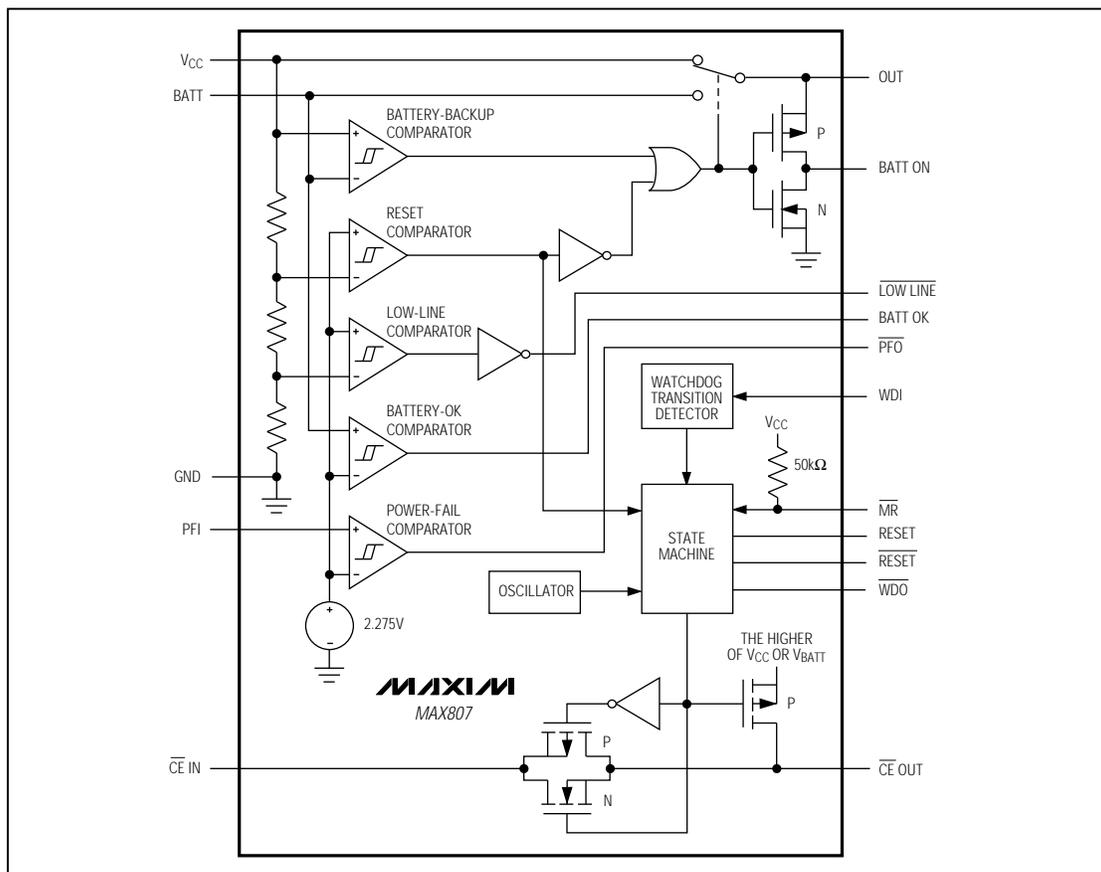

Figure 1. Block Diagram
The MAX807 microprocessor (μ P) supervisory circuit provides power-supply monitoring, backup-battery switchover, and program execution watchdog functions in μ P systems (Figure 1). Use of BiCMOS technology results in an improved 1.5% reset-threshold precision, while keeping supply currents typically below 70 μ A. The MAX807 is intended for battery-powered applications that require high reset-threshold precision, allowing a wide power-supply operating range while preventing the system from operating below its specified voltage range.
The MAX807 provides internal gating of chip-enable (CE) signals to prevent erroneous data from corrupting the CMOS RAM in the event of a power failure. During normal operation, the CE gate is enabled and passes all CE transitions. When reset is asserted, this path becomes disabled, preventing erroneous data from corrupting the CMOS RAM. The MAX807 uses a series transmission gate from the Chip-Enable Input ($\overline{CE IN}$) to the Chip-Enable Output ($\overline{CE OUT}$) (Figure 1).